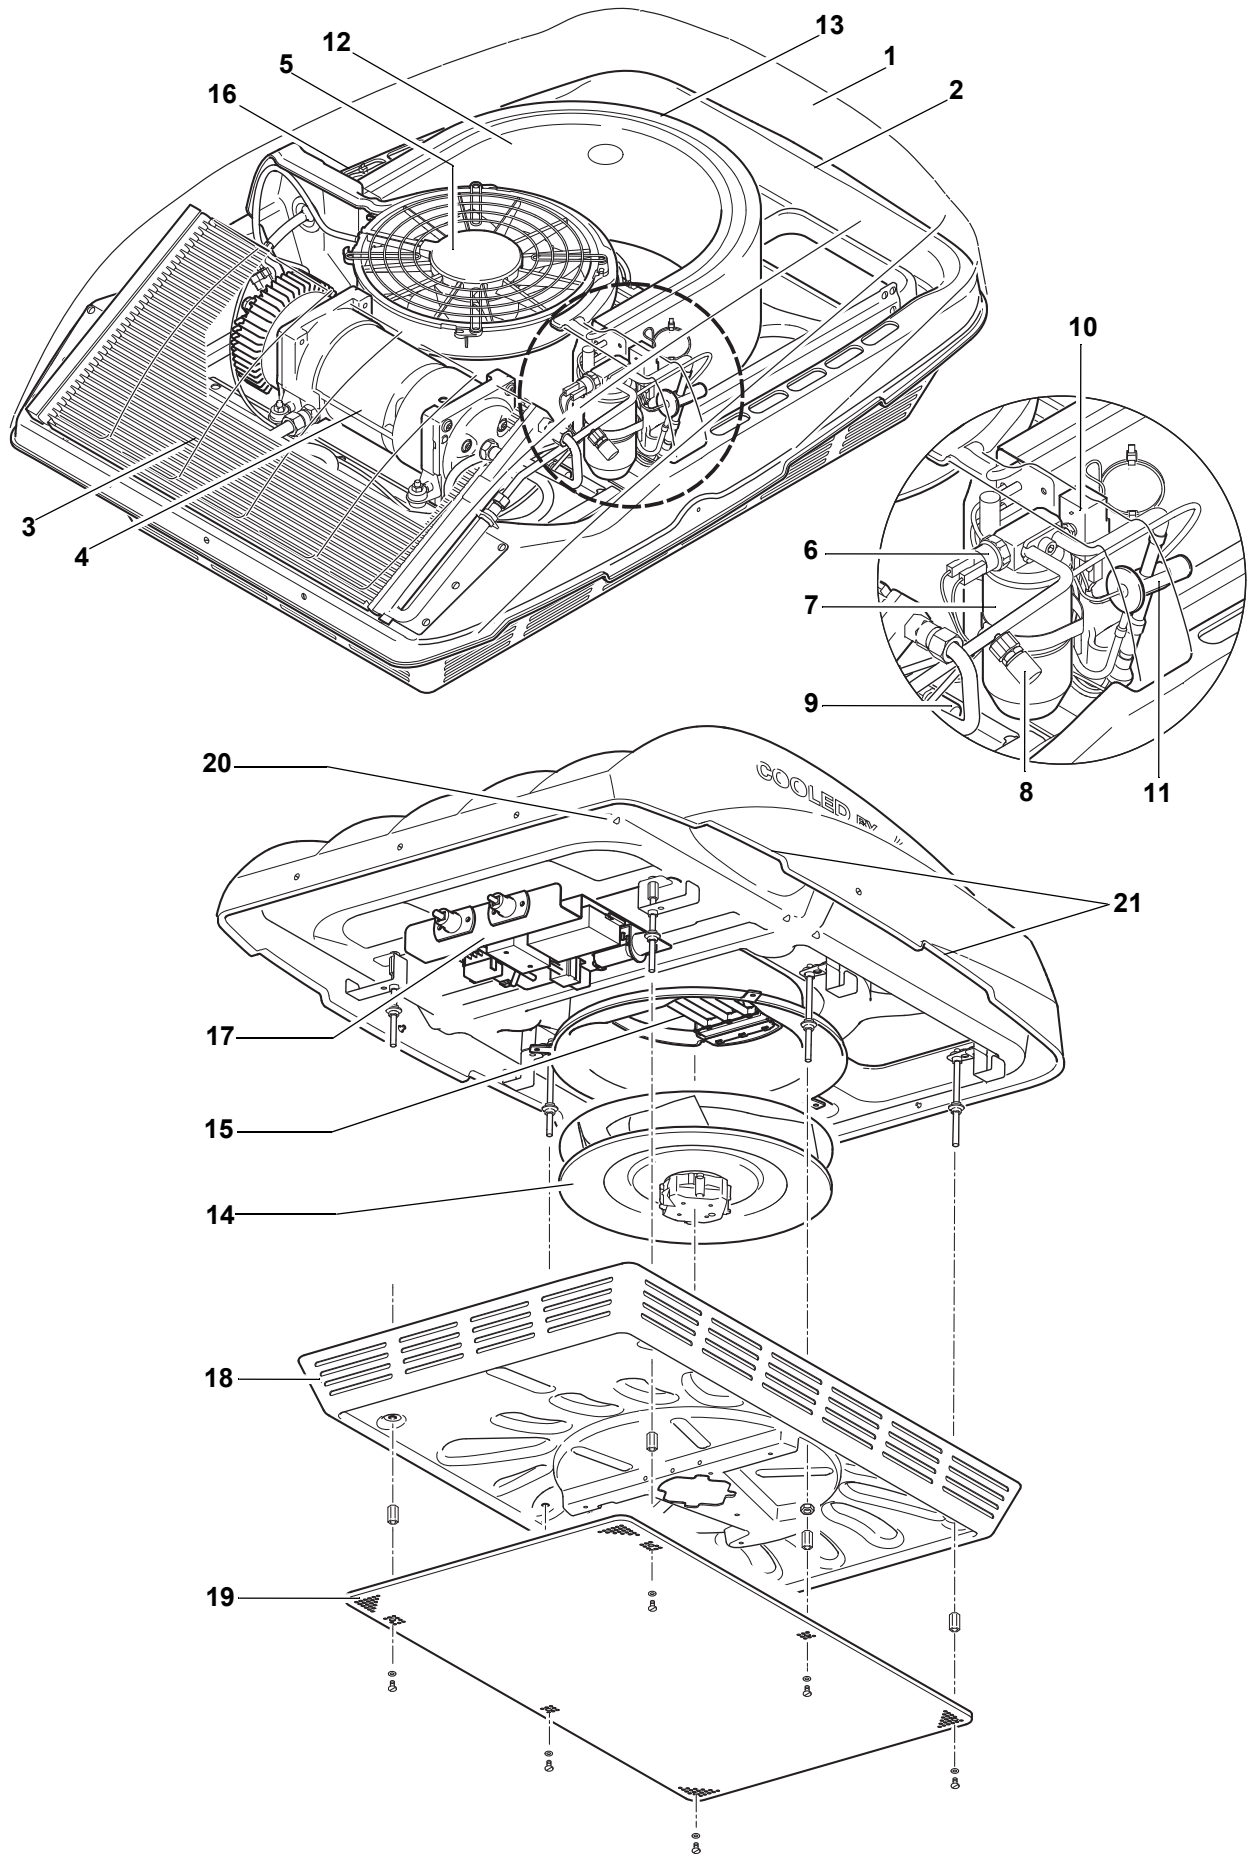

Fig. 2.3
The rooftop airconditioner-unit is shown in Fig. 2.3.
* Ref. to Fig. 2.3
Rainwater entering the rooftop system is discharged via several drain holes (20, Fig. 2.3).
The condenser (3, Fig. 2.3) consists of aluminium flat pipes and fins interconnected to form a large heat exchanger surface.
The receiver-drier (7, Fig. 2.3) is an expansion and storage reservoir for refrigerant. Its lower part contains a granulated desiccant, which extracts and chemically binds small amounts of water from the refrigerant. In addition it filters out particles of dirt from the refrigerant circuit which otherwise could lead to faults.
The thermostatic block valve (11, Fig. 2.3) with outer pressure compensation regulates the flow of refrigerant to the evaporator in accordance with the need for refrigerant resp. the temperature in the evaporator. The thermostatic expansion valve represents the control element between high and low-pressure part of the refrigerant circuit.
The evaporator (12, Fig. 2.3) consists of copper pipes and aluminium fins interconnected to form a large heat exchanger surface. In order to use the available space for construction best possible, the evaporator is bent U-shaped. The refrigerant flowing through the pipe from the expansion valve changes from the liquid to the gaseous state and superheats. The required evaporation heat is extracted from the cabin air flowing through the fins and is transmitted through the pipe to the refrigerant. The air dries as it cools and condensation water is drained overboard.
The pressure switch (6, Fig. 2.3) includes a high-pressure and a low-pressure switch. It measures the pressure in the high-pressure part of the refrigerant circuit and switches off both the electric motor and the compressor if the pressure is too low (e.g. due to loss of refrigerant) or too high (e.g. due to overheating in the condenser).
The anti-icing switch (10, Fig. 2.3) is a temperature switch. It measures the temperature of the refrigerant at the injection pipes of the evaporator and switches off the compressor if there is any risk of ice forming or lack of refrigerant.
The axial fan (5, Fig. 2.3) comprises a brushless DC motor, a fan wheel, a housing and a protective grille. Once the air conditioning system is switched on, the fan will be activated by the control system via pin 3 (yellow wire) and will supply the condenser with the required outside air (no speed regulation - On/Off only).
The evaporator fan (14, Fig. 2.3) comprises a brushless DC motor and a fan wheel. It draws cabin air and fresh air through the evaporator and the electrical heater (comfort version only), and blows the air back into the cabin via the air-diffusor. Fan speed control by the control system is accomplished through a digital signal (PWM-signal) via pin 3 (yellow wire). The fan speed is controlled automatically, or if desired, manually.
The compressor (4, Fig. 2.3) comprises a semi-hermetic housing with integrated scroll compressor, brushless DC motor, and electronics. When the air conditioning system is switched on, the compressor will be activated via pin 1 of the compressor's cable harness, and driven with the required revs per minute (PWM-signal). When in operation, it compresses the refrigerant to the required condensation pressure. The integrated electric motor includes a soft-start function to prevent current peaks being transmitted to the on-board supply, a voltage monitoring (21 V to 31 V), an overload protection, and a temperature monitoring of electronics (+0°C to 105°C). Outboard limits the compressor is switched off. Restarting is effected by repeatedly switching on the system.